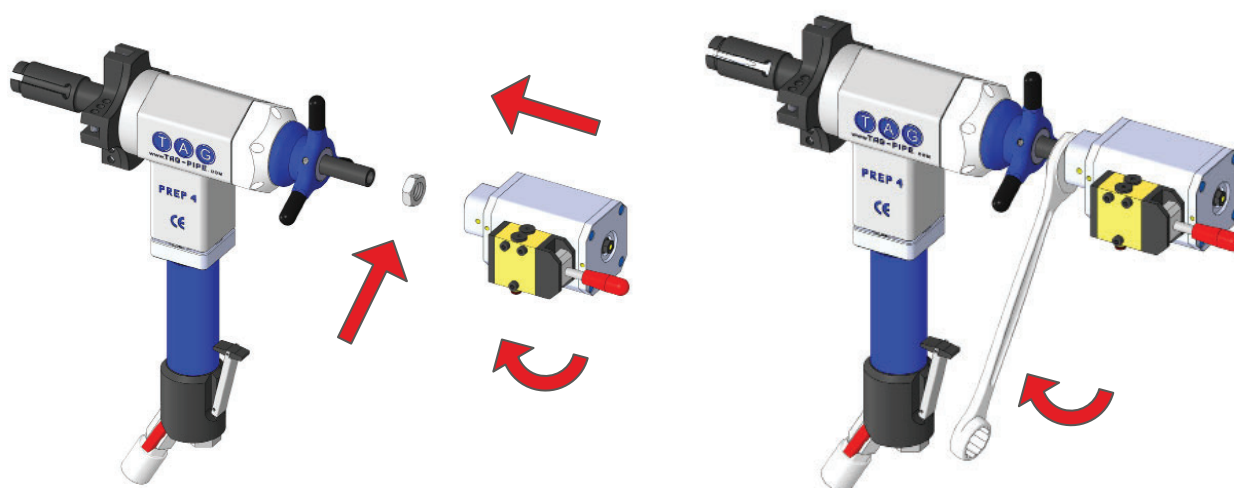

Figure 3-17 Automatic locking device installation
1. First, screw on the locking device nut and locking device by tightening them clockwise to the stop. Turn them to the correct position and lock the nut against the locking device, as shown in Figure 3-17.